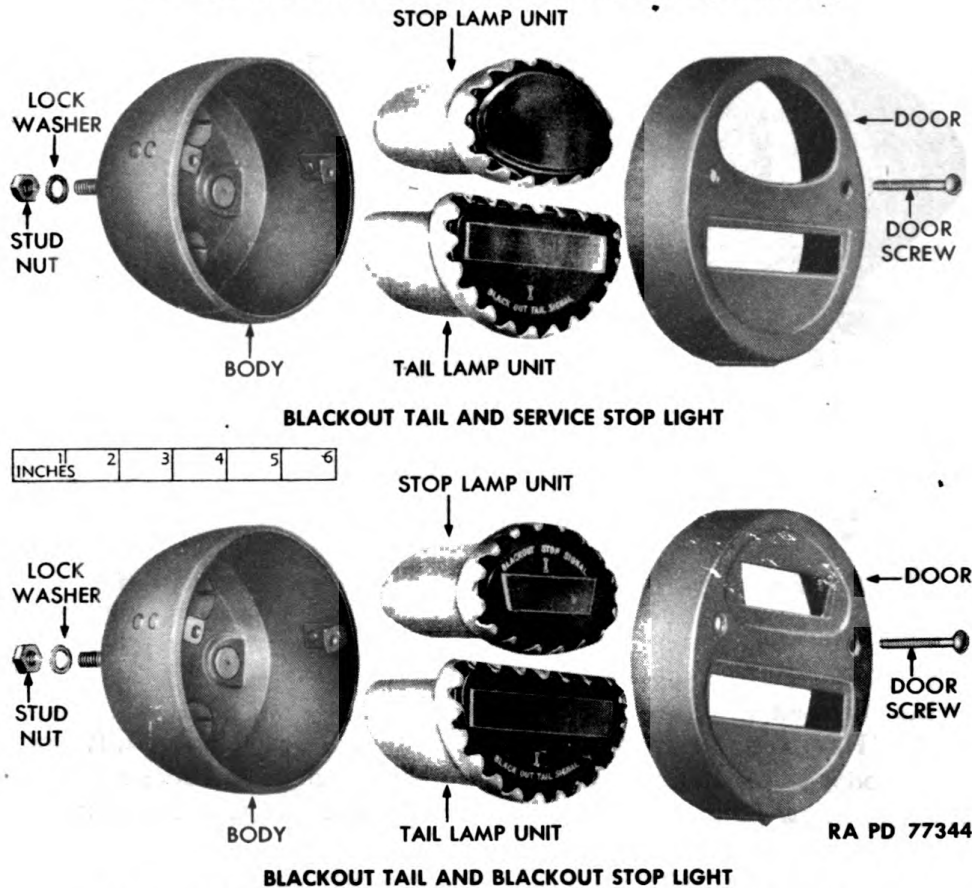

Figure 110 – Tail and Stop Lights – Disassembled
(1) **DESCRIPTION** (fig. 110). A blackout tail and service stop
(1) **REPLACE LAMP** (fig. 110). Remove both door screws, and lift door from body. Pull lamp unit from body. Insert new unit into body and push completely into socket. Place door in position on body, and install both body screws.
c. **Removal** (fig. 110). Remove both plugs from sockets behind lamp. Remove the two stud nuts and lock washers which attach light to frame. Lift light from frame.
d. **Installation** (fig. 110). Place light in position on frame and install two lock washers and stud nuts which attach light to frame. Insert wire plugs into sockets on rear of light. The plug with two wires goes to the top socket, the plug with one wire to bottom socket. Test operation of lights. Proper functioning indicates correct installation.
(1) **DESCRIPTION** (fig. 110). Blackout tail and blackout stop light is attached to the rear cross member of the frame to the right of the pintle hook. It is similar to the blackout tail and service stop light described in the preceding paragraph. The chief visual exception is that the stop light emits only a small triangle of well shielded light when the brakes are applied.
(2) TABULATED DATA:
(1) **REPLACE LAMP** (fig. 110) (par. 160 b (1)).
c. **Removal** (fig. 110) (par. 160 c).
d. **Installation** (fig. 110). Place light in position on frame and install the two lock washers and stud nuts which secure light to frame. Install wire plugs into sockets on rear of light. The plug with black wire goes to the top socket, the yellow to the bottom socket. Test operation of lights. Proper functioning indicates correct installation.